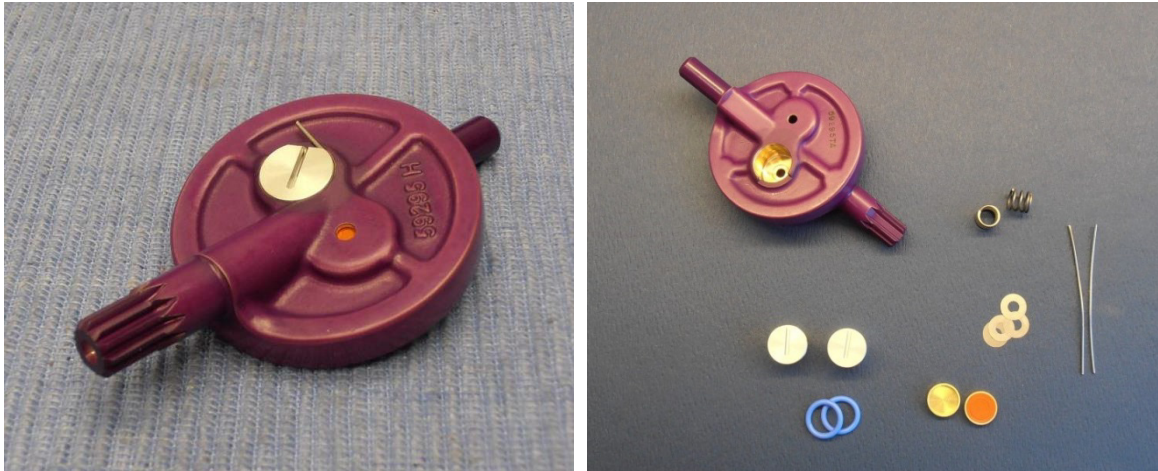

FIGURE 4 – Valve Sub-Assembly and It's Parts
Figure 4 shows photos of the assembled item and the parts it contains. The sub-assembly on the left is shown nearly completed with all 15 parts inserted, just prior to its initial poppet pressure test. The (4) flat washers are .003" thick and are used as shims to effect the correct cracking pressure, or the point where the poppet plug releases due to its specified over-pressure. It may require a dis-assembly to achieve the correct cracking pressure. There is one on each side of the valve disc to protect both inlet and outlet pressures. The wire is fed around the poppet body during insertion and retains the poppet in the valve disc bore. Total assembly time involves approximately 3 minutes while the test time involves about 13 minutes. The DFA analysis shows this sub-assembly as a bottle-neck and provides suggested redesign options to improve the manufacturability.